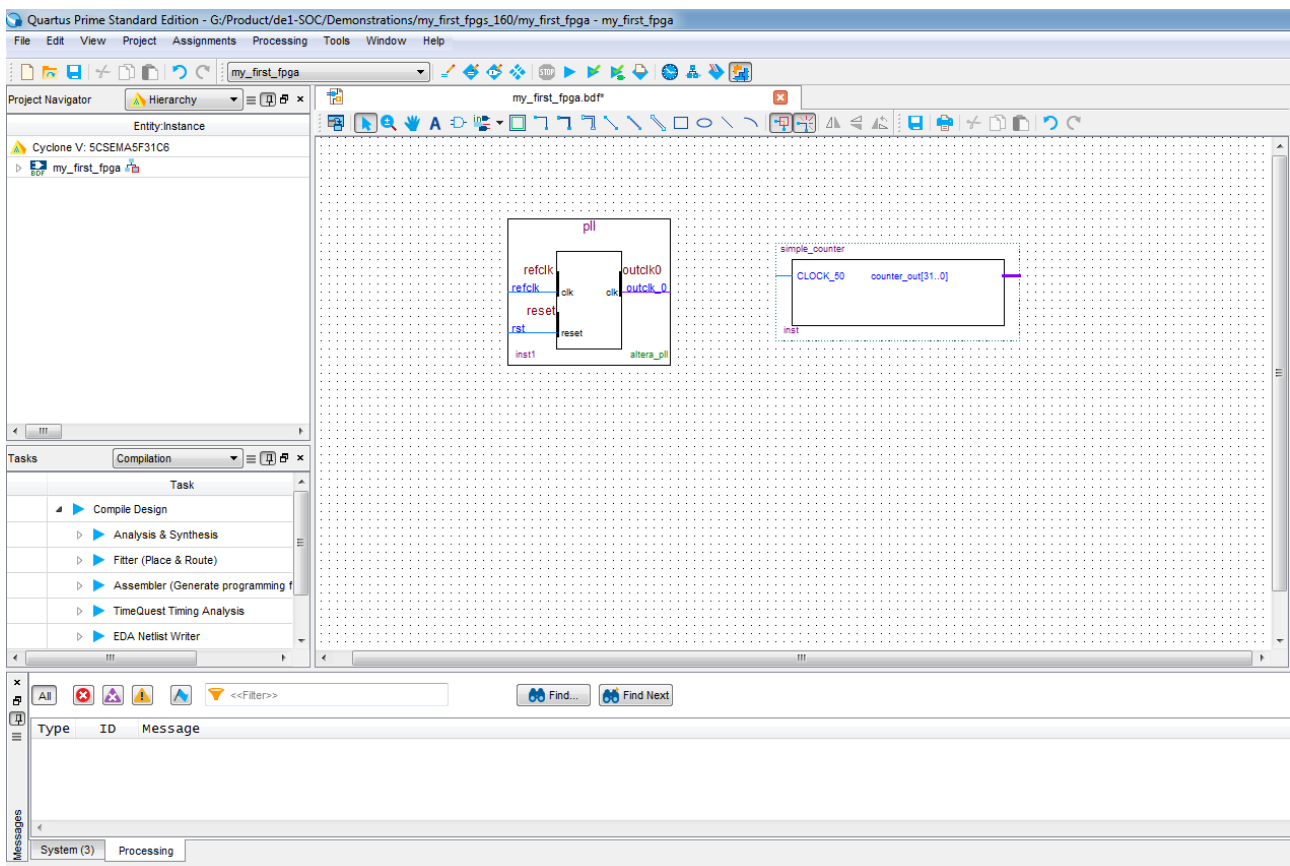

Figure 3-14 Place the PLL Symbol
11. Click OK and place the pll symbol onto the BDF to the left of the simple_counter symbol. You can move the symbols around by holding down the left mouse button, helping you ensure that they line up properly. See Figure 3-14.